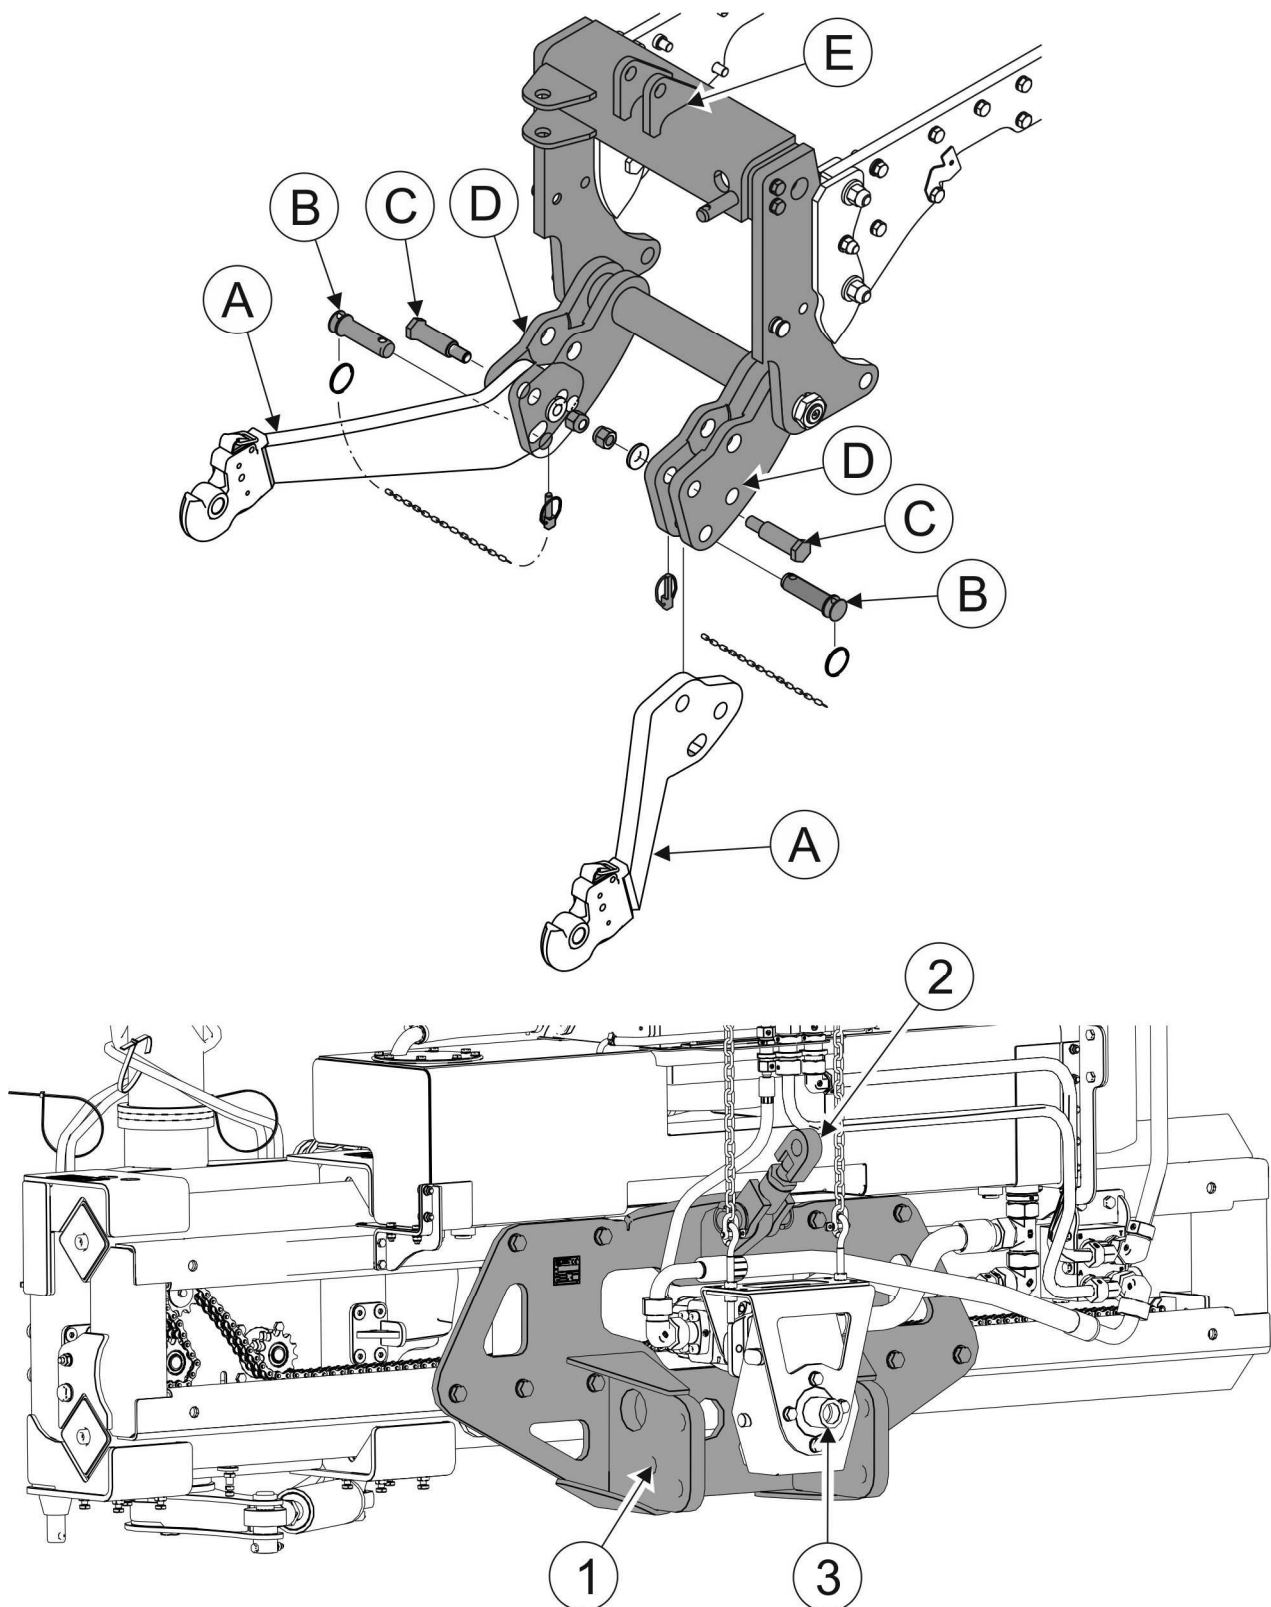

FIG. 4.2 Attach multifunction arm to the tractor.
- remove the lower links (A) of the tractor front three-point linkage (Figure 4.2)
- align the lower brackets (1) of the multifunction arm adapter plate with the lower bracket holes (D);
- connect the adapter plate lower brackets (1) with the tractor three-point linkage lower brackets (D) of by means of fixing pins (B) and bolts (C). Secure fixing pins with cotter pins.
- Connect multifunction arm linkage central link (2) to tractor three-point linkage upper link (E) and secure with cotter pin;
- Connect the PTO and secure the multiplier gear box connection (3) to the tractor;